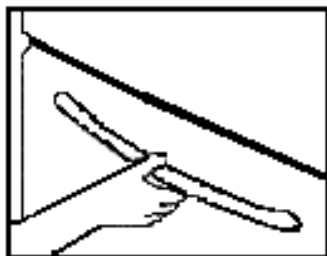

Figure 6
**IMPORTANT:** To open the door; always catch the handle in its central part. (See Figure 6)